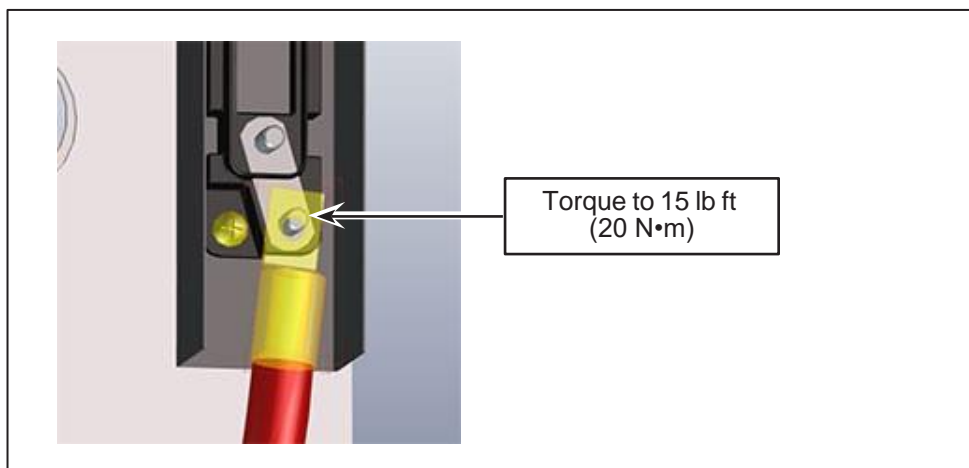

Figure 10 - Torque Value on the Lower Connection of the Fuse Holder
- 1.29. Connect the lower cable to the fuse holder N84769. See Figure 10 for torque value.